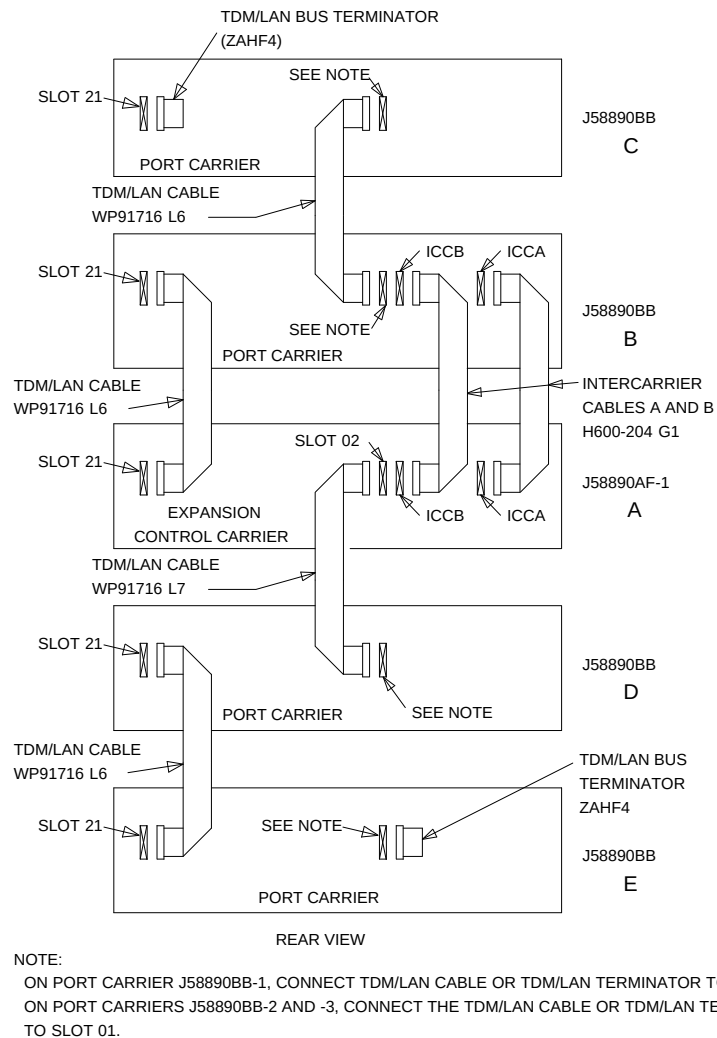

**Figure 7-36. TDM/LAN Connections for Critical-Reliability DEFINITY ECS
12. Connect the loose end of the TDM/LAN cable (between the "A" and "D" carriers) to the pin-field block marked "TDM" on the right side of the "A" carrier (see Figure 7-36 and Table 7-11). The other end remained connected to the "D" carrier when the old carrier was removed.